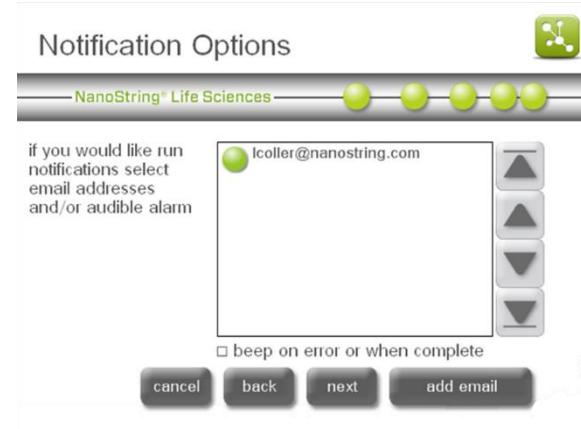

Figure 139: The ‘Notification Options’ screen.
5. The ‘Notification Options’ screen will appear (**Figure 139**). Select an email address to receive an email alert when the protocol is complete, and set the system to produce an audio alert if desired. Press **next**.